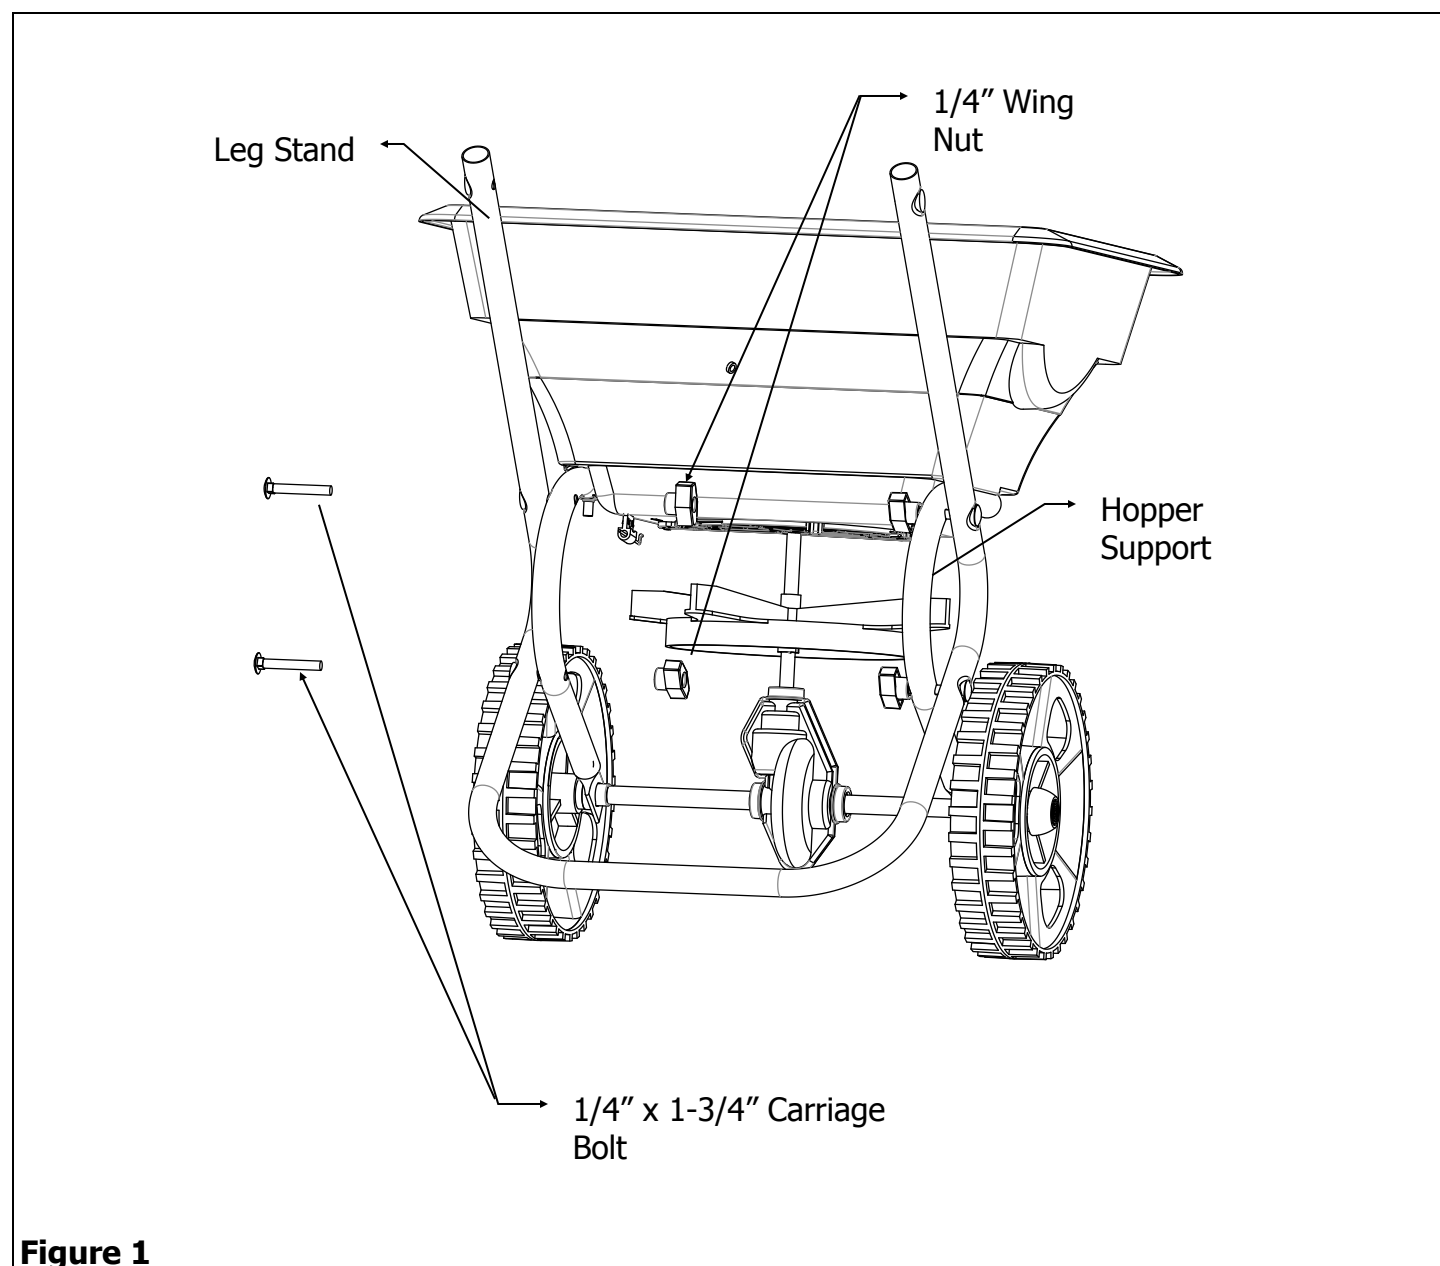

Figure 1
1. Attach the Leg Stand to the outside of Hopper Supports using 1/4" x 1-3/4" Carriage Bolts, and 1/4" Wing Nuts. See Figure 1.